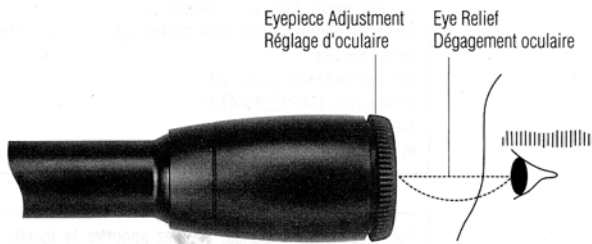

Fig. 3-1
1. Look through the eyepiece with your eye positioned about 10cm (4 in) away from the eyepiece lens (Fig. 3-1), and you will see the Nikoplex reticle (Fig. 3-2), or the Miliradian Dot reticle (Fig. 3-3), or the BDC reticle (Fig. 3-4), or the Crosshair with dot reticle (Fig. 3-5).